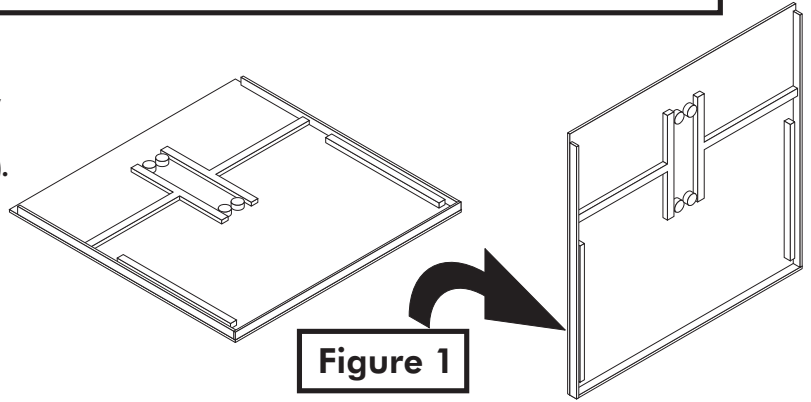

Figure 1
1. With one adult on each side of table half, carefully lift the first table half out of shipping carton and rest it on its end (the edge with the end rail attached). See Figure 1.